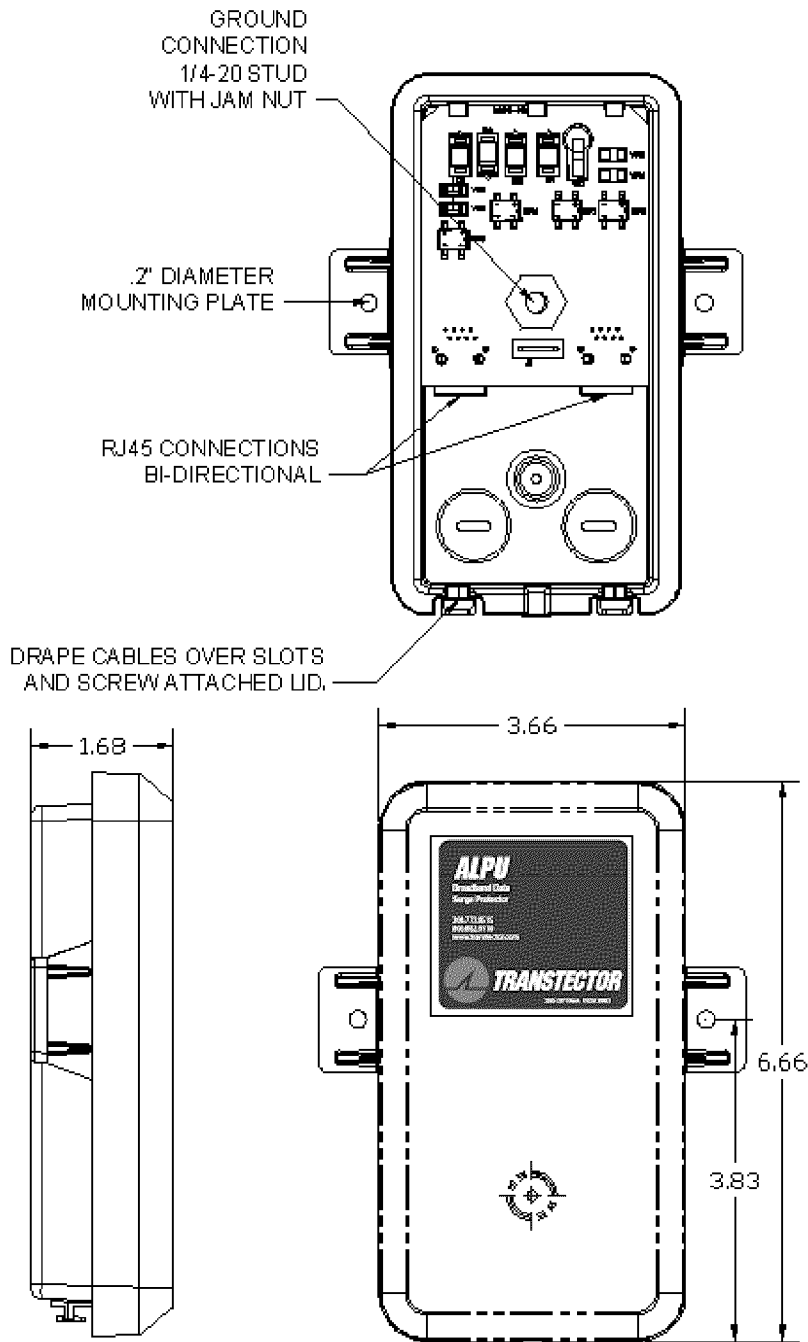
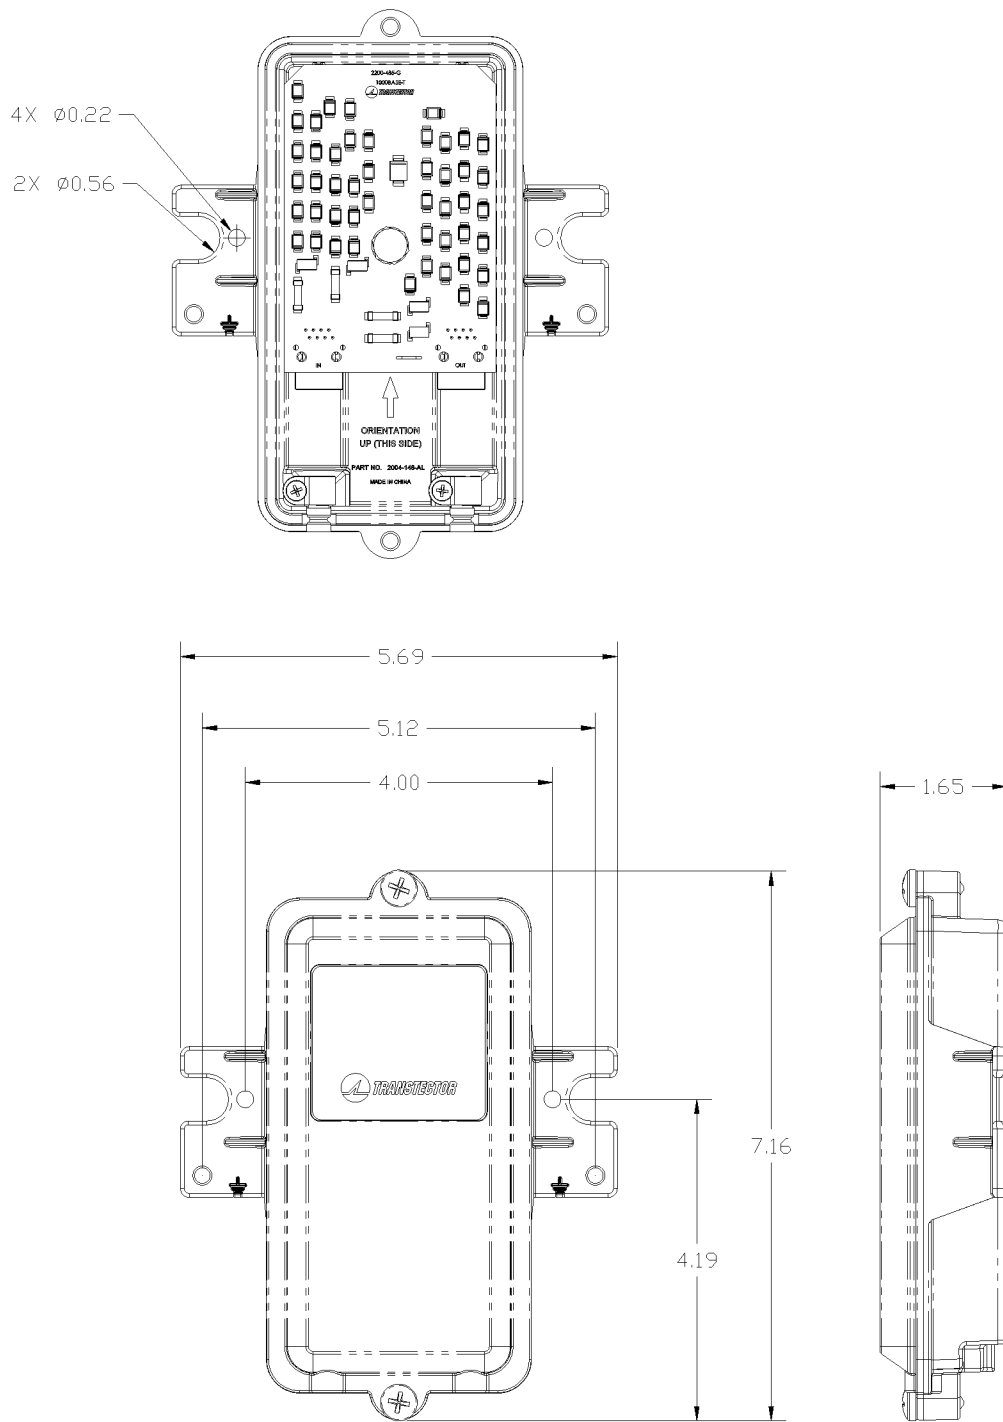

FIGURE 1. MECHANICAL OUTLINE PLASTIC ENCLOSURE DRAWING INCHES.
FIGURE 2. MECHANICAL OUTLINE METAL ENCLOSURE DRAWING INCHES.
6. INSTALLATION: The ALPU POE Series Protectors are intended to be installed indoors or outdoors, on wall or pole mount applications. The unit mounts on four inch hole centers. Refer to Figure 1 and Figure 2 for mechanical requirements and connector locations. A dedicated ¼-20 ground stud with jam-nut is provided inside the plastic enclosure unit that must be bonded to the nearest grounding system. The optimum ground connection on the metal enclosure unit at the mounting flange on either side and is shown in Figure 2. Use minimum 6awg wire for ground reference attachment. Communications cables with the RJ45 connectors already installed can feed directly into the chassis. Both enclosures feature a built in cable retention feature that grips the cables as the lid is attached. A pole mount adapter kit (PN 1000-1164) is available to adapt to installations on a wide range of pole diameters.